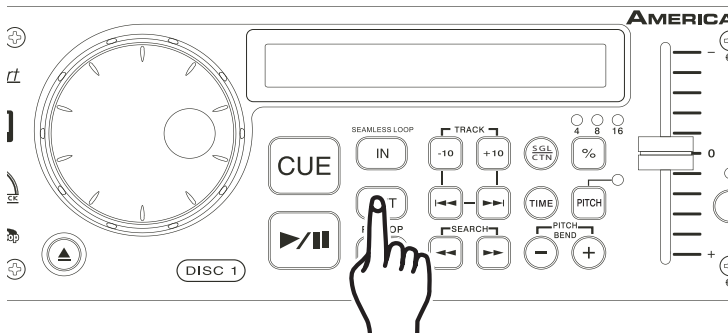

Figure 18
3) Press the OUT BUTTON (10) to set the ending point for your Seamless Loop (Figure 18). The OUT and IN BUTTON's will stay lit indicating a Seamless Loop is playing. Press the OUT BUTTON again to stop the Loop.
4) Press the RELOOP BUTTON (15) to reactivate the Seamless loop. Press the OUT BUTTON (10) to deactivate the loop.